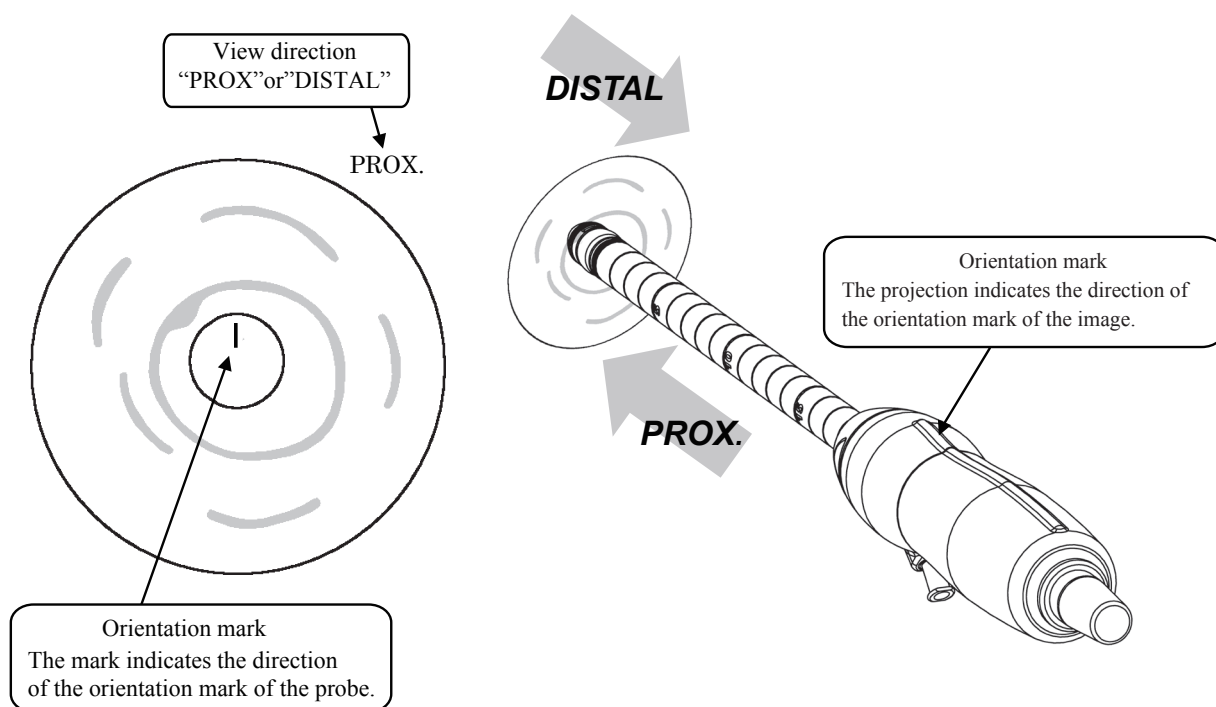

Figure 5 Direction of the image
- (1) Insert the probe into anus.
- (2) Inject the physiological saline into the short probe cover by the syringe.
- (3) Locate the probe at the observation site by turning the probe and adjust the insertion depth.
- (4) The relationship between the scan position and the image is that,
- if “PROX” is displayed, the image from the insertion direction is shown (Figure 5),
- (5) After observation, draw physiological saline in the short probe cover into the syringe.
- (6) After drawing all physiological saline back into the syringe, remove the probe from anus.